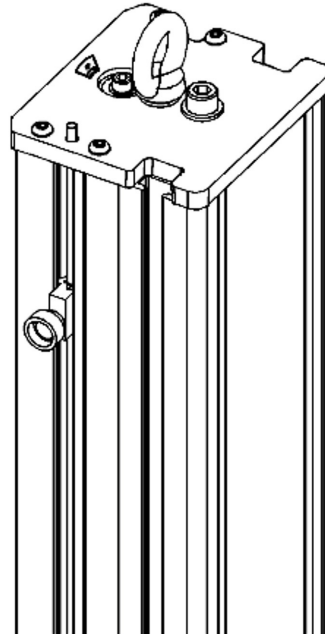

Figure 10. Eyebolt for lifting the frame
7. Insert the crane hook into the eyebolt on top of the frame column Figure 10 on page 58.
For some systems, the eyebolt is removed prior to shipping. If the eyebolt is missing from your machine, it will be packed in an envelope inside one of the unsealed boxes, usually in the box that contains the system documentation. Screw the eyebolt into the top of the frame column as shown in Figure 10 on page 58.